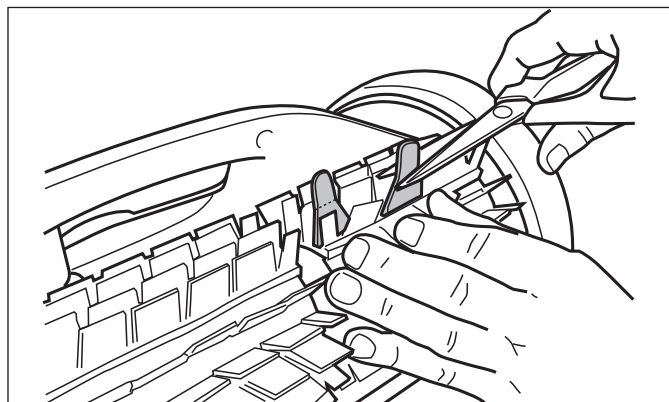

Figure 35. Cut Tabs
- Use a pair of scissors to cut the tabs 3/4 inch from the heel so that they are no higher than the spikes as shown in Figure 35.